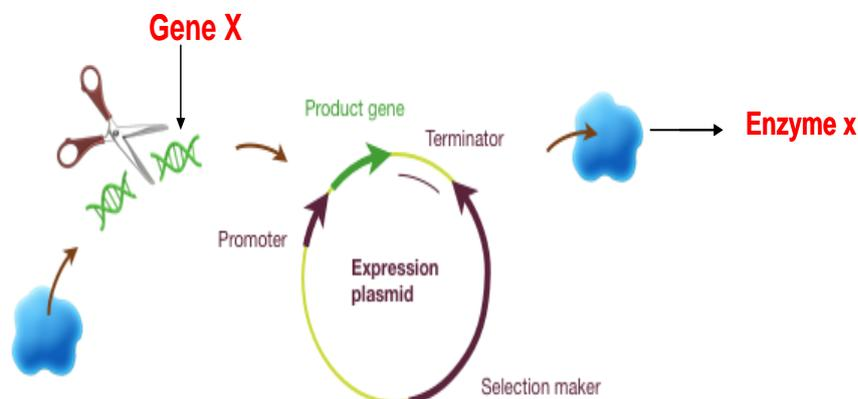

Fig.7.1: Recombinant expression-transferring beneficial enzyme gene to an efficient enzyme-producing organism
- Genetic engineering has greatly increased the possibility for optimizing enzyme yield. Through mutation, induction and selection of growth conditions. Moreover, using the innovative power of gene transfer technology and protein engineering (Fig.7.1). These techniques applied easily in microbes as comparing with plants or animals.